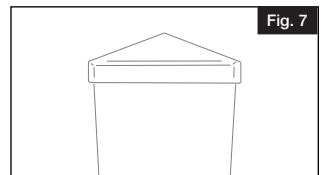

Fig. 7
**The post is now ready to accept the railing installation (Fig. 7).**